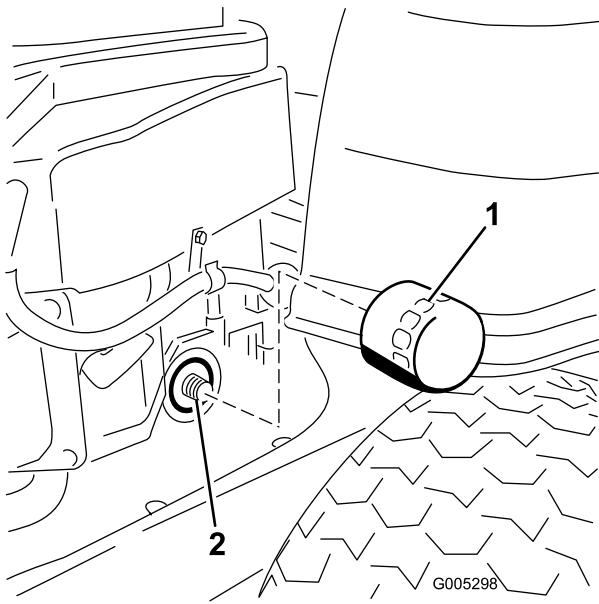

Figure 31
- Locate the oil filter on the right side of the engine. Remove the old filter and wipe off the filter adapter with a clean cloth (Figure 31).
11. Install the replacement oil filter to the adapter. Turn the oil filter clockwise until the rubber gasket contacts the pad, then tighten the filter an additional 3/4 to 1 turn (Figure 31). Wipe up any excess oil on the frame.